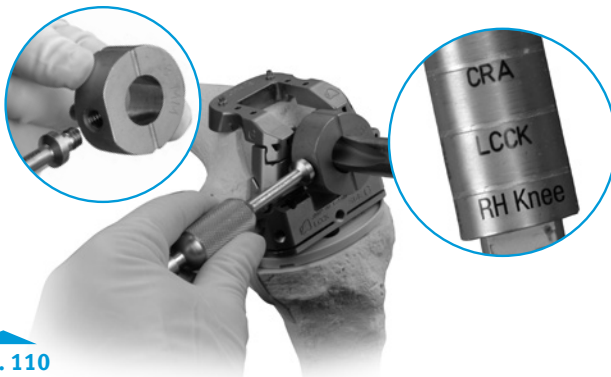

Fig. 110
- Attach the MIS Threaded Handle to the LCCK 18mm Femoral Drill Bushing (Fig. 110).
- Drill the canal to the second engraved line, marked “RH Knee” (Fig. 110).